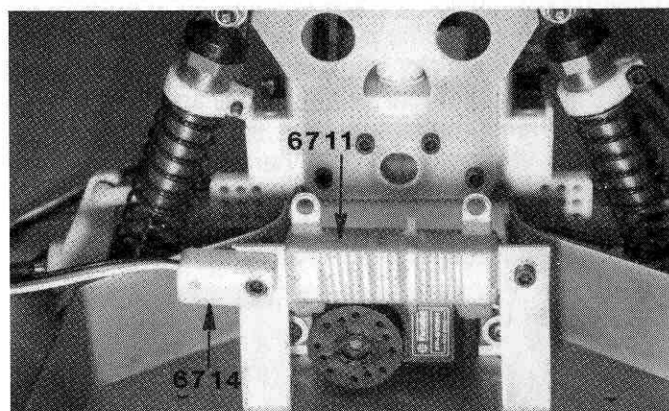

Fig. 127
□ **Fig. 127** Slip the flat aluminum mounting bar through the #6711 resistor, both from bag #6-13. Install the resistor mounting bar on the back side of the brackets (closer to the rear bulkhead). The drivers side (right side in photo) of resistor mount will be secured using a #6924 4/40 x 3/8" SHCS and a #6295 4/40 locknut. On the passenger side (left side of photo) install the #6714 plastic bypass mount with the #6925 4/40 x 1/2" SHCS and #6295 4/40 locknut. There are two plastic bypass mounts. Use the mount with the round corners (may be yellow colored) for this servo setup.